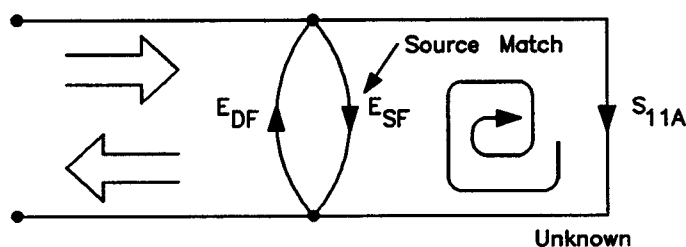

Figure B-4
Since the measurement system test port is never exactly the characteristic impedance (50 ohms), some of the reflected signal bounces off the test port, or other impedance transitions further down the line, and back to the unknown, adding to the original incident signal (I). This effect causes the magnitude and phase of the incident signal to vary as a function of S_{11A} and frequency. Leveling the source to produce constant (I) reduces this error, but since the source cannot be exactly leveled at the test device input, leveling cannot eliminate all power variations. This re-reflection effect and the resultant incident power variation are caused by the source match error, E_{SF} (Figure B-4).